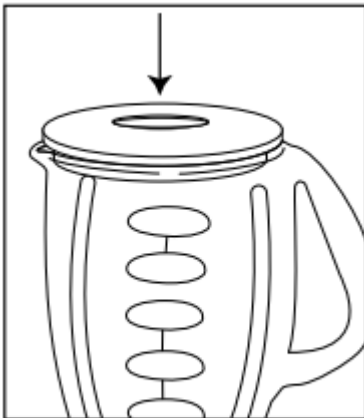

FIGURE 7
- Do not remove the lid while in use. Remove filler cap to add smaller ingredients. *(Figure 7)*